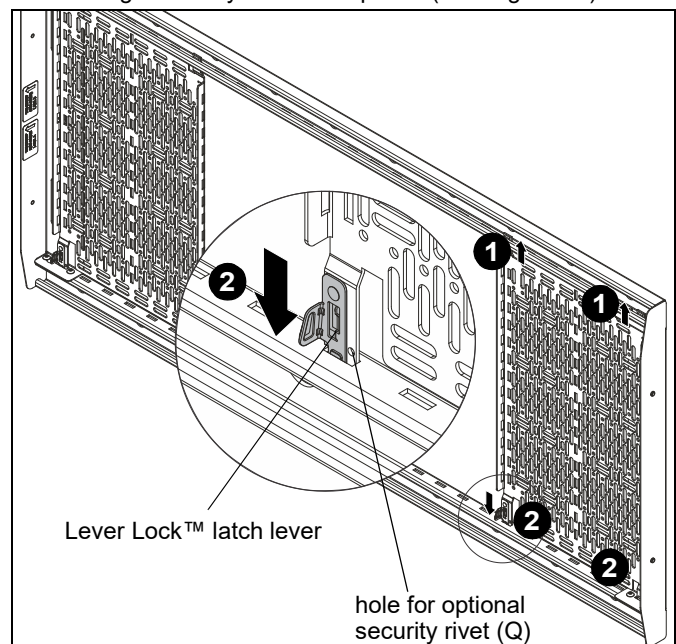

Figure 29
1. Slide Lever Lock™ plates (D) into slots on top side of rail assembly (C). (See Figure 29)
2. Slide Lever Lock™ plates (D) into slots on opposite side, making sure they "click" into place. (See Figure 29)